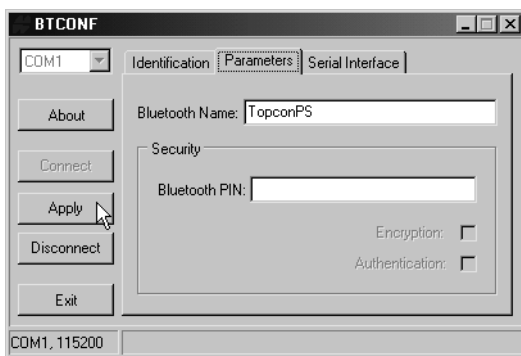

Figure 2-37. BTCONF Parameters Tab
- Click the **Parameters** tab (Figure 2-37 on page 2-38). The Parameters tab sets identifying and security information for your Bluetooth module. The security section allows you to set data security and unauthorized access parameters for the Bluetooth module.
7. Enter up to 14 characters to set a unique name for the Bluetooth module (Figure 2-37), and click **Apply**.